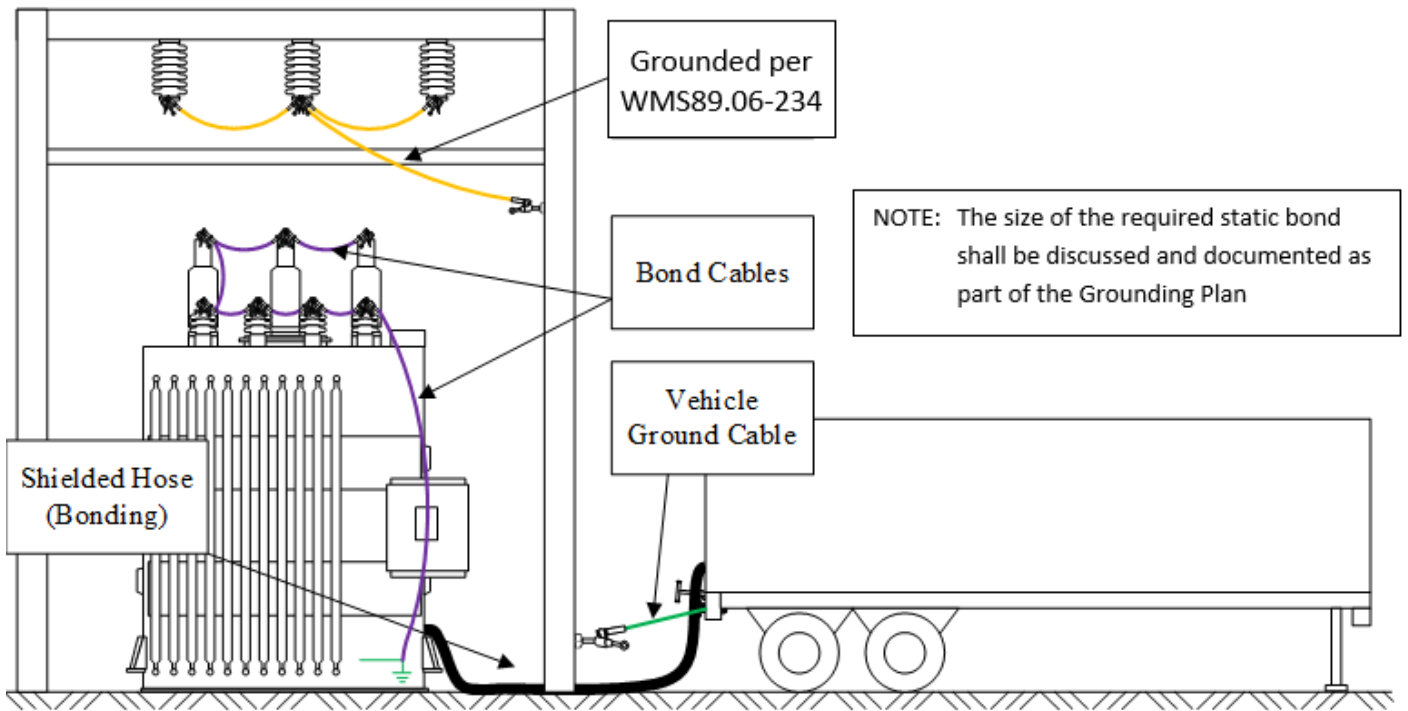

Figure 2 – Example of Insulated Fluid Filling
9.3 Ground the pump, it's trailer and filtering devices to the same location as the device being worked on, refer to Figure 2.
- 9.4 Bond the insulating fluid storage tank, hose, filtering, and pumping equipment with the transformer tank and to the Substation ground grid, refer to Figure 2.